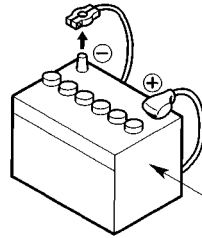

Figure 1 / Figure 1 / Figura 1
- 3 Be sure to disconnect the battery "⊖" terminal before starting. This is to prevent short circuits during installation (Figure 1)
- 3 S'assurer de débrancher la borne "⊖" de la batterie avant de commencer. Cela évitera les court-circuits pendant l'installation (Figure 1)